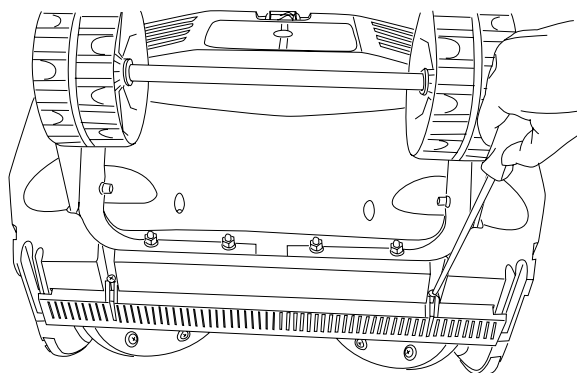

Figure 26
3. Install the new scraper bar and fasten it securely to the snow thrower with 2 screws (Fig. 26).